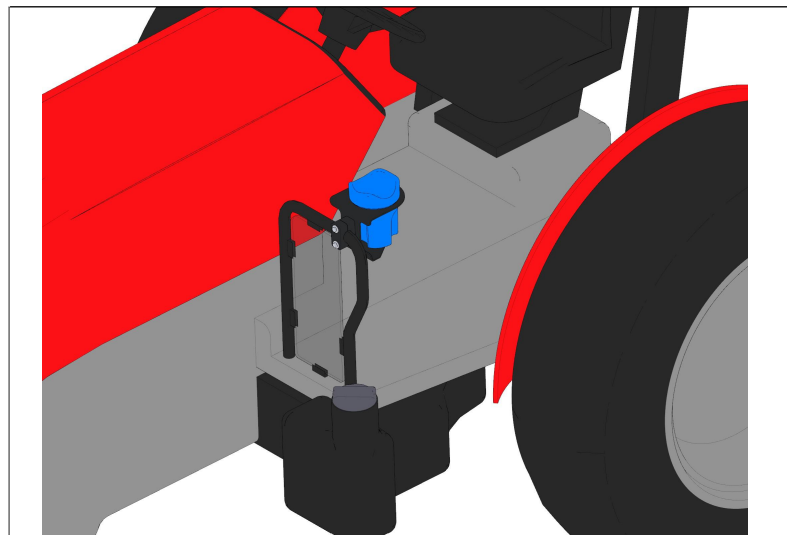

Fig. 3
3. For use with smaller beverages, install the supplied rubber insert on the inside of the cup holder as shown in figure 3.